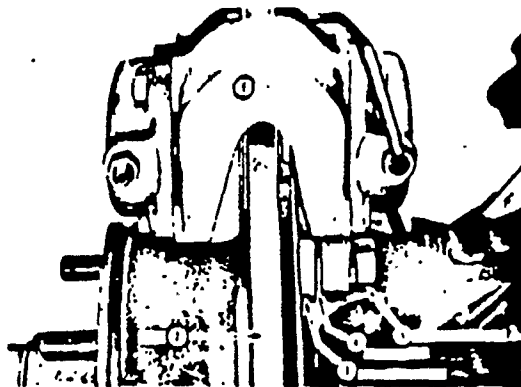

Fig. 25
3. Remove the two capscrews and lockwashers that fasten the caliper unit to the steering knuckle adapter bracket. (fig. 25 #3).
NOTE: Shims are used between the caliper and the adapter bracket to center the caliper around the disc. Watch for the spacer shims (fig. 25 #4) and note their exact location. This procedure will save valuable installation time.